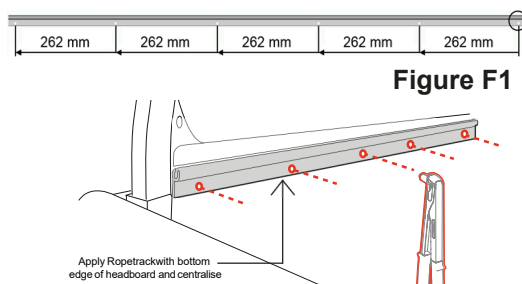

Figure F2
- Sit the flat side of the assembled rope track on the tailgate side of the headboard with the 'C' channel facing upward and align the bottom edge of the rope track with the bottom edge of the headboard then centralise the rope track. **Refer Figure F2**.